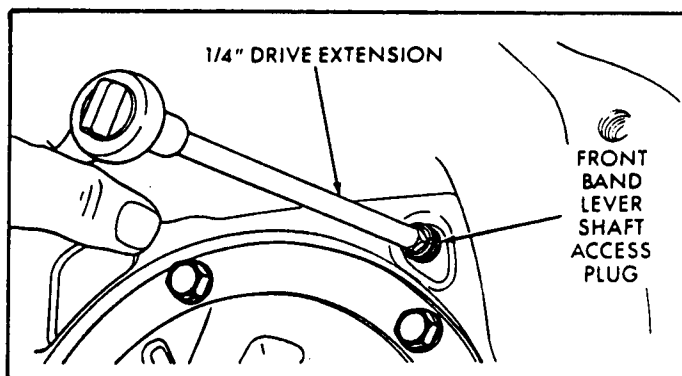

Figure 11
22. Remove front band lever shaft access plug through converter housing, shown in Figure 11.